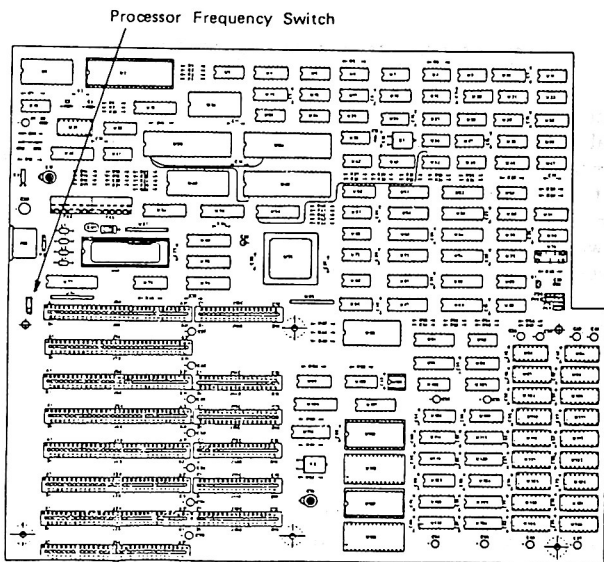

Figure 1-6
3. If you find it more useful to have a default setting different than supplied, this can be done by changing a switch inside the main unit. To do this, first remove the cabinet top as described in your Owner's Manual. This slide switch is located at the rear edge of the Main Processor Board immediately under the Flex/Hard Disk Controller Board as shown in Figure 1-6.